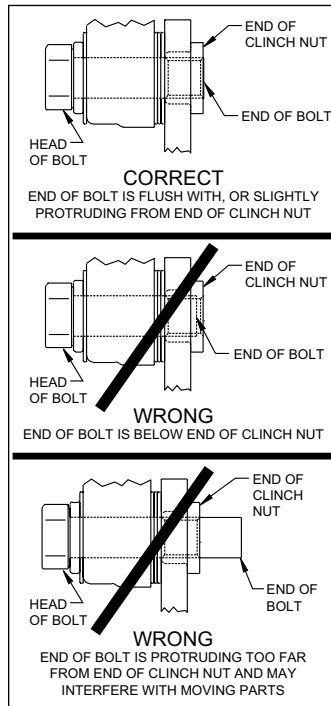

Figure 4. Clinch Nut Engagement Diagram
**CAUTION:** All mounting bolts must fully engage clinch nuts. Be sure to check that all bolts are either flush or protruding through flanged side of clinch nut after shimming, Figure 4.
**STEP 11** **NOTE:** This kit contains distinct right and left hand calipers that must be mounted in a specific direction, as described below. Lubricate the caliper mounting studs (23) with lightweight oil. Initially place two .030" thick shims (28) on each stud (23) between the caliper and the bracket, as shown in Figure 1 and Photo 10. Mount the caliper (27) onto the bracket (22) using lock nuts (29) and washers (30), Figure 1. Temporarily tighten the lock nuts. Ensure that the caliper is mounted so the largest pistons are at the rotor exit end of the caliper, in relation to the forward rotation of the rotor. View the rotor through the top opening of the caliper. The rotor should be centered in the caliper, Photo 11. If not, adjust by adding or subtracting shims (26) on bolts (24) between the radial mount caliper bracket (22) and the bracket assembly (1). Always use the same amount of shims on each of the two mounting bolts. **NOTE:** The end of each bolt (24) must be flush with or slightly protruding from the head of the clinch nut of bracket assembly as shown in Figure 4. If necessary, place spare shims between washer (25) and radial mount caliper bracket (22) to achieve the proper clinch nut engagement. Once the caliper alignment is correct, remove the bracket mounting bolts (24) one at a time, apply red *Loctite*® 271 to the threads, and torque to value shown in Figure 1.